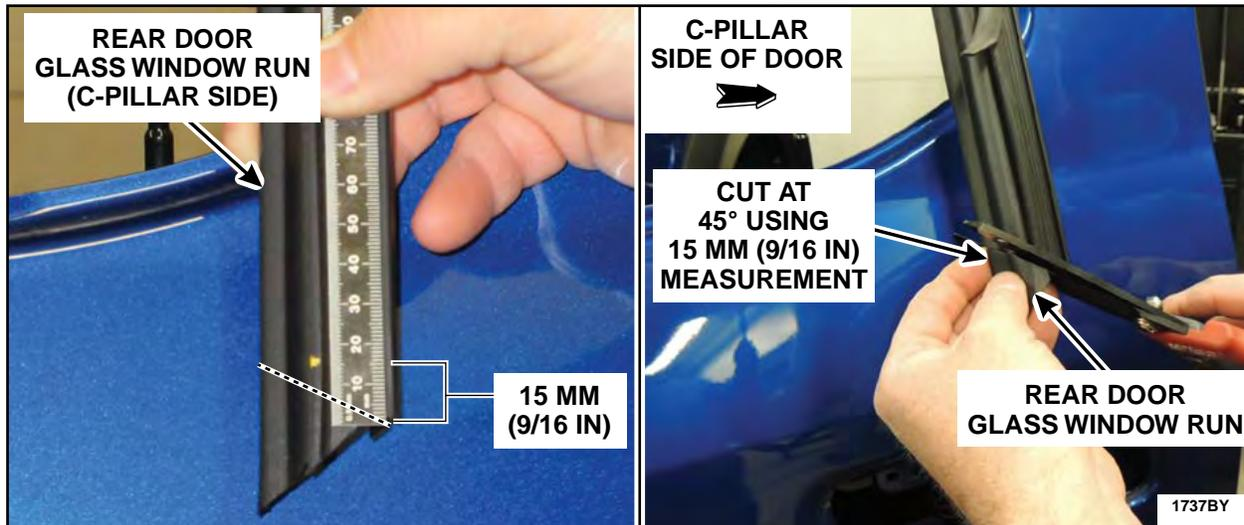

FIGURE 70
12. Modify the rear door glass top run. See Figure 70.